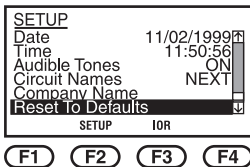

Figure 3-6. Reset to defaults.
2. Press the up- and down-arrow keys until **Reset To Defaults** is highlighted. See Figure 3-6.